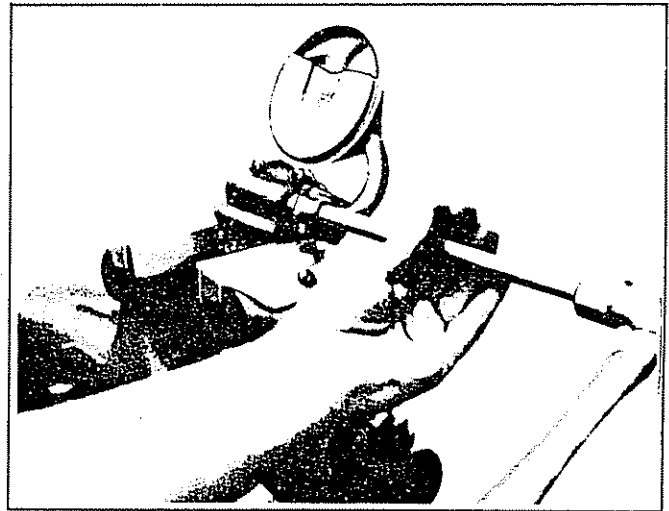

Fig. 6A2-34 — Installing Screen — Small V8
### Assembly (Figure 6A2-33)
1. If the pickup screen and pipe assembly was removed, it should be replaced with a new part. Loss of press fit condition could result in an air leak and loss of oil pressure. Mount the pump in a soft-jawed vise, apply sealer to end of pipe, and using Tool J-8369 (Fig. 6A2-34) tap the pipe in place with a plastic hammer. On 454 engine use Tool J-22144.